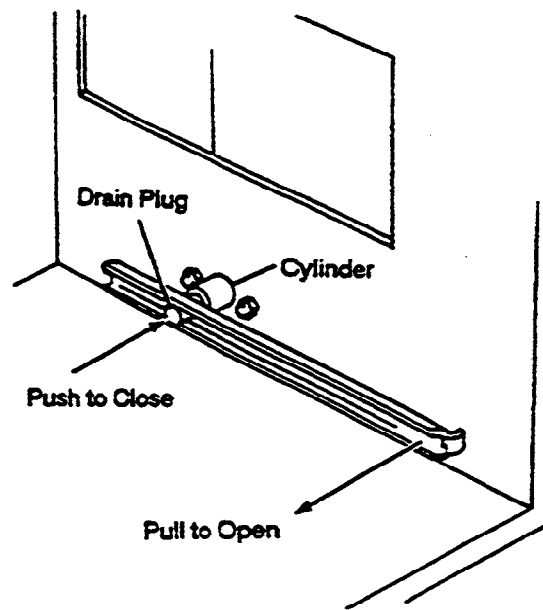

Figure 3-2. Drain Lever and Plug
The generator drain plug is located inside the steamer compartment near the lower center of the right side; see Figure 3-2. The drain plug slides in and out of a cylinder that protrudes from the side of the compartment.
To close the plug, push in on the lever as shown on Figure 3-2. The plug is fully inserted when the O-ring on the plug seats against the edge of the cylinder.
2. Drain the generator. Open the drain plug by pulling the lever to the left. The drain plug and lever are located inside the steamer compartment on the right side near the bottom. The hole in the plug comes into view when the plug opens. Do not try to pull the plug completely out of the cylinder. Refer to Figure 3-2.